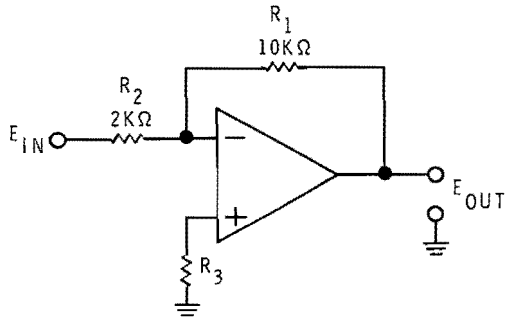

Figure 3-85
8. The circuit shown in Figure 3-85 is: